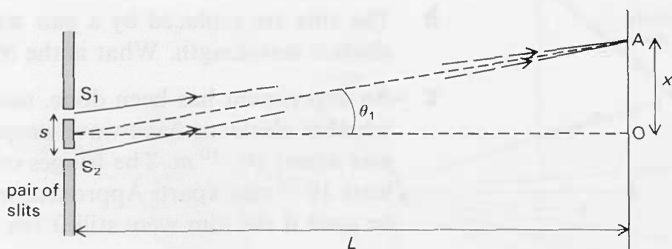

Figure J115
- 26(L)** A diagram for the Young's double-slit experiment is shown in figure J115. It is important to note that it is *NOT* to scale; typically x_1 might be a few mm if $s \leq 1$ mm and $L \geq 1$ m; θ_1 is much smaller than shown here.